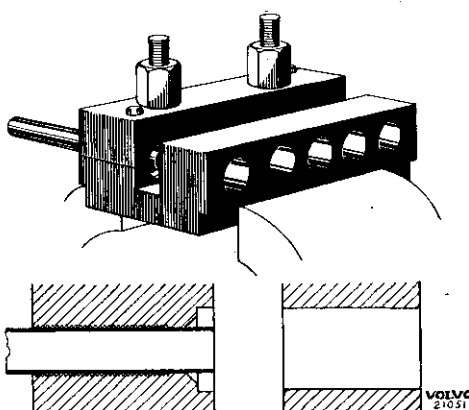

Fig. 55. Flanging a brake pipe.
2. Place tool SVO 2042 in a vice. Insert the pipe so far that its end comes flush with the vice jaw as shown in Fig. 55. Tighten the nuts.